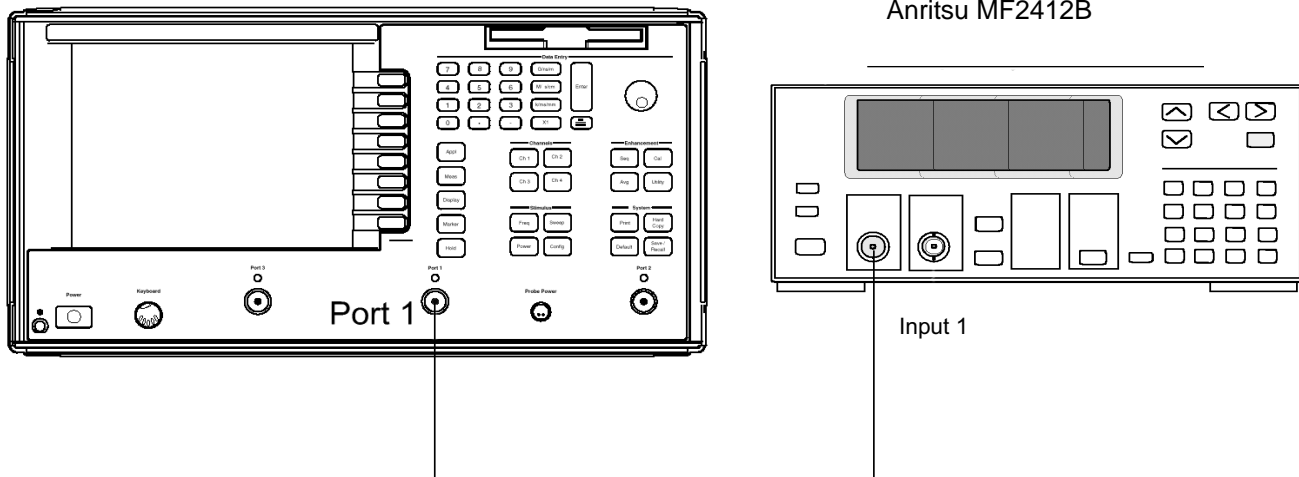

Figure 5-3. Manual 10 MHz Calibration Setup
3. Connect a coaxial RF cable between the Input connector of the frequency counter and Port 1 connector of the MS462XX, as shown in Figure 5-3 (previous page).